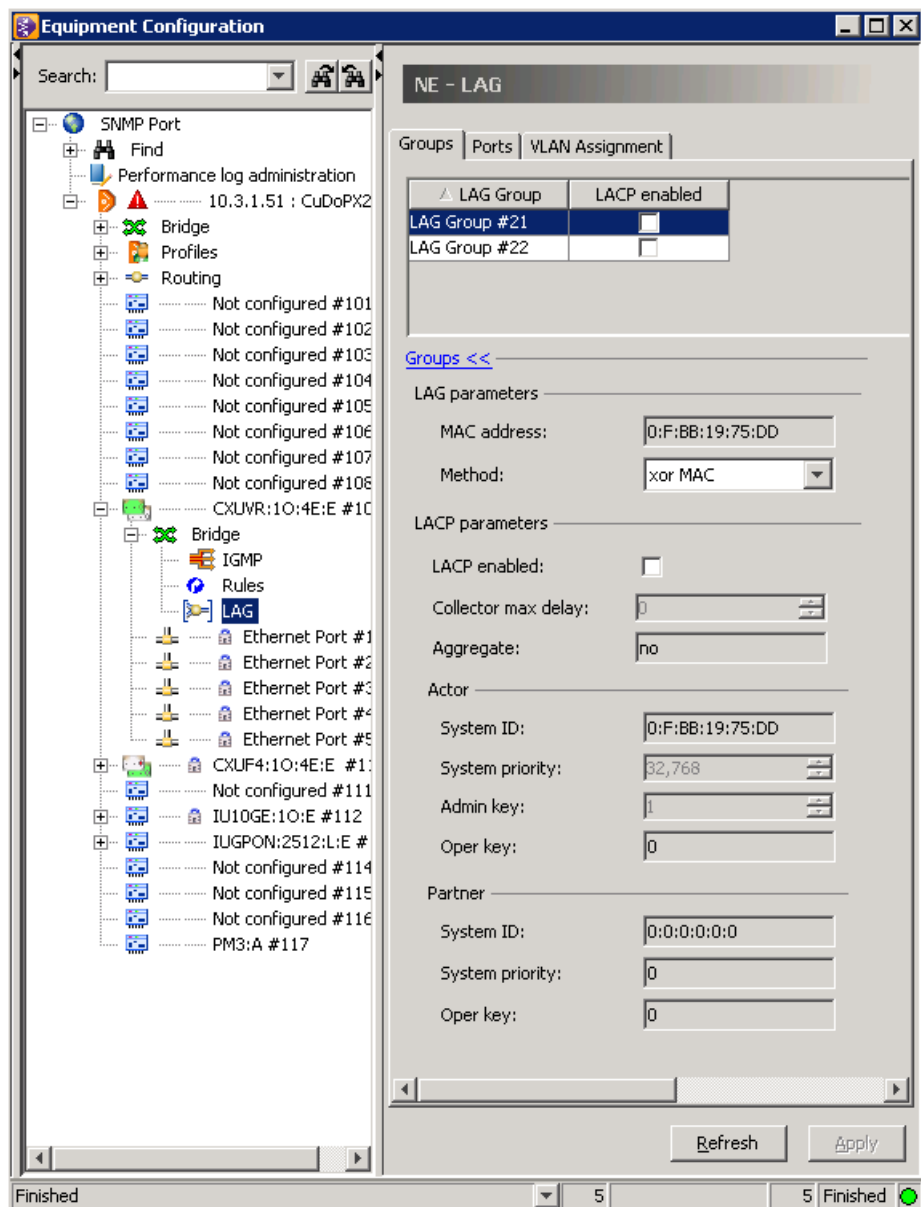

Figure 73 LAG Groups
1. Click “NE:hiX5750 ⇨ CXUVR:1O:4E:E#109 ⇨ Bridge ⇨ LAG” and select the “**Groups**” tab, see Figure 73.